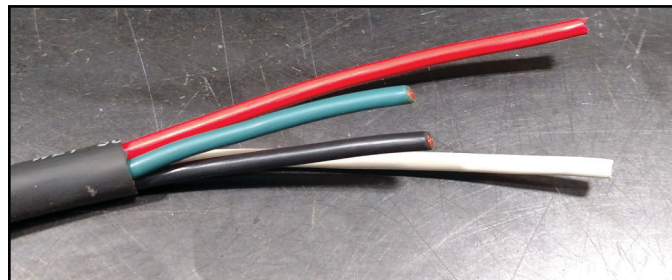

Figure 1
STEP 1: Cut back outer jacket about 2 inches, Caution do not nick jacket of the inner wire. Off set/stagger the inner wires, and strip ends. *(See Figure 1)*